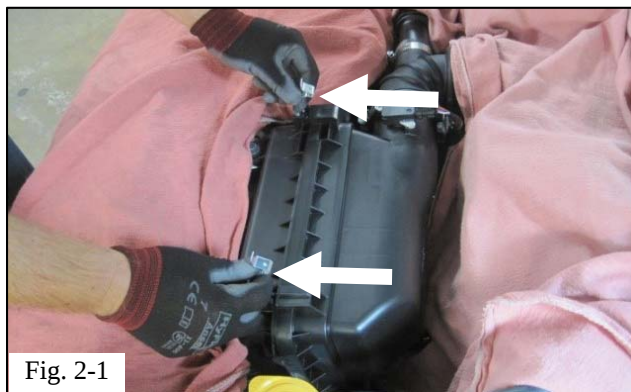

Fig. 2-1
-  (b) Place protective rags around the air filter housing (Fig. 2-1).
- (c) Unlatch the two air filter lid clips (Fig. 2-1).